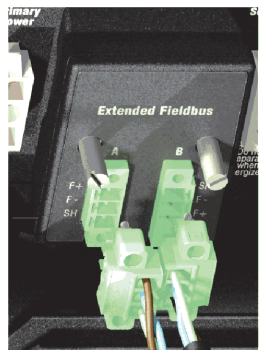

Figure 12. Extended Fieldbus Splitter/Terminator
- ▶ Fieldbus Splitter/Terminator (RH926LC/P0926LC) (see Figure 12) allows the FCP270 module(s) or FCM100E module(s) to connect to the remote Fieldbus used by the 100 Series Fieldbus Modules (Y-module FBMs) or Migration products. RH926LC/P0926LC connects to the following baseplates: